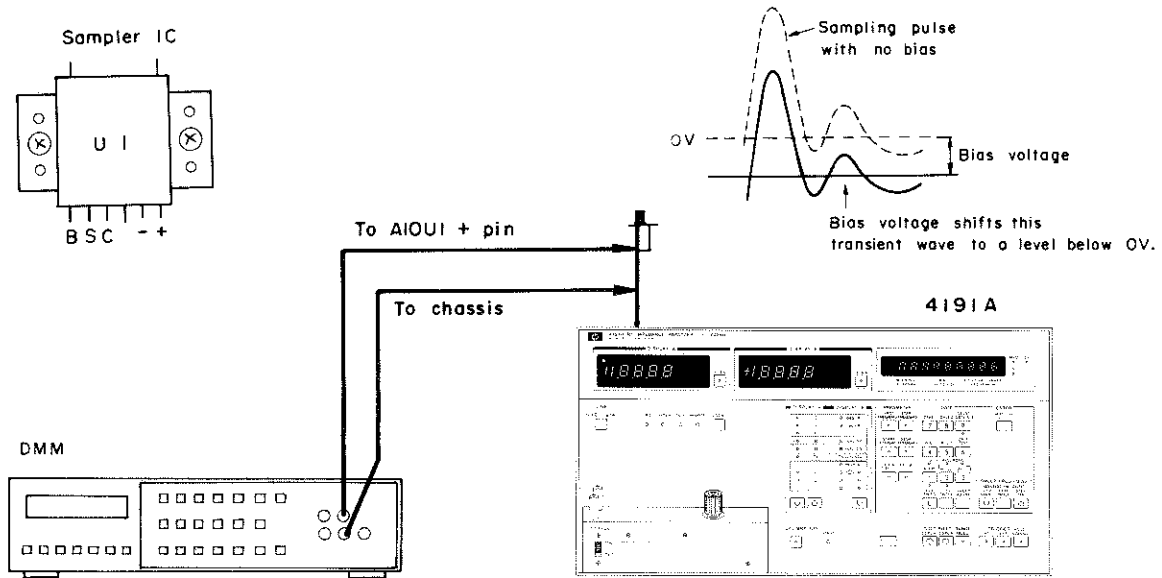

Figure 5-5. Sampler Diode Bias Voltage Adjustment Setup.
3. Connect the dc voltmeter (DMM) input cable to test point “+” on the A10 board and instrument chassis as shown in Figure 5-5.